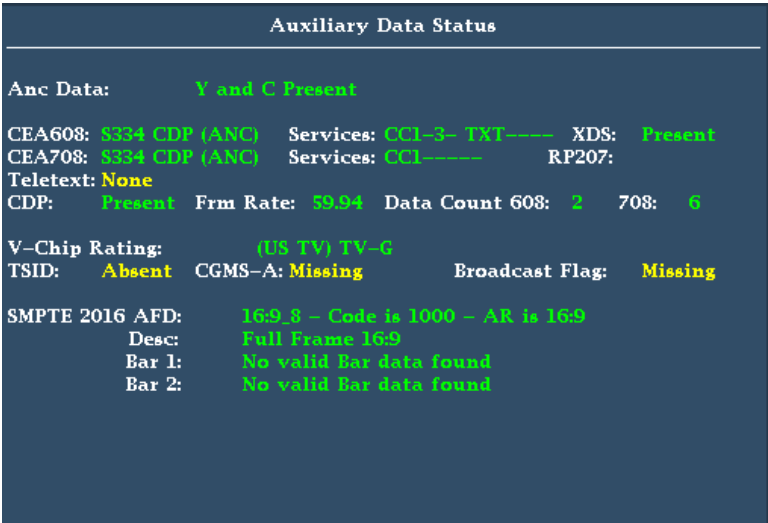

Figure 79: Auxiliary Data Status display
4. Select **Aux Data Status**. The Auxiliary Data Status display shows the status of the closed caption data. (See Figure 79.)
View the graticules in the Picture display. AFD information can viewed in the Auxiliary Data Status display. (See Figure 79 on page 165.)